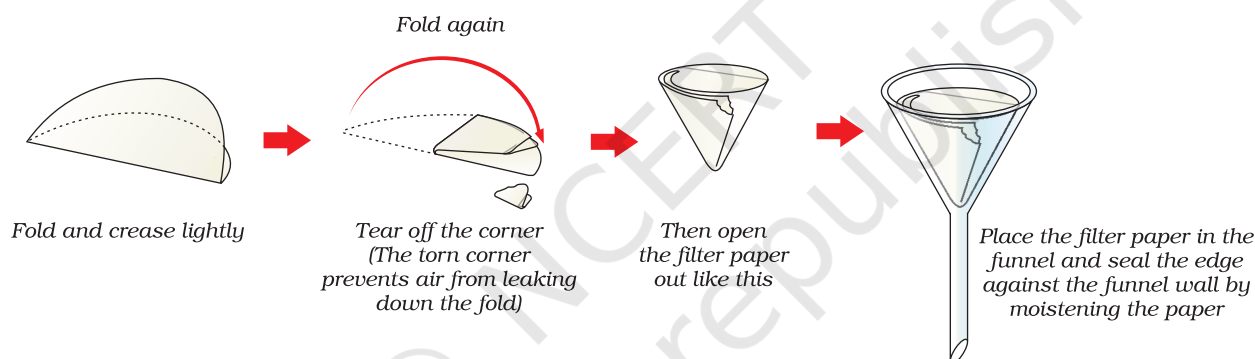

Fig. 2.10 : Folding the filter paper and placing it in the funnel
- (i) Fold the filter paper to fit in the funnel as shown in Fig. 2.10. For this, fold the circular filter paper in half, tear off a small piece of paper from the corner and once again fold it.